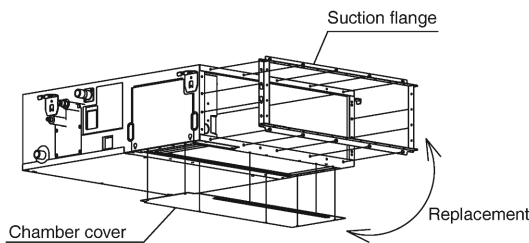

Fig. 5
- (6) **In the case of changing the preset suction to underside suction, replace the chamber cover and the suction flange. (Refer to Fig. 5)**